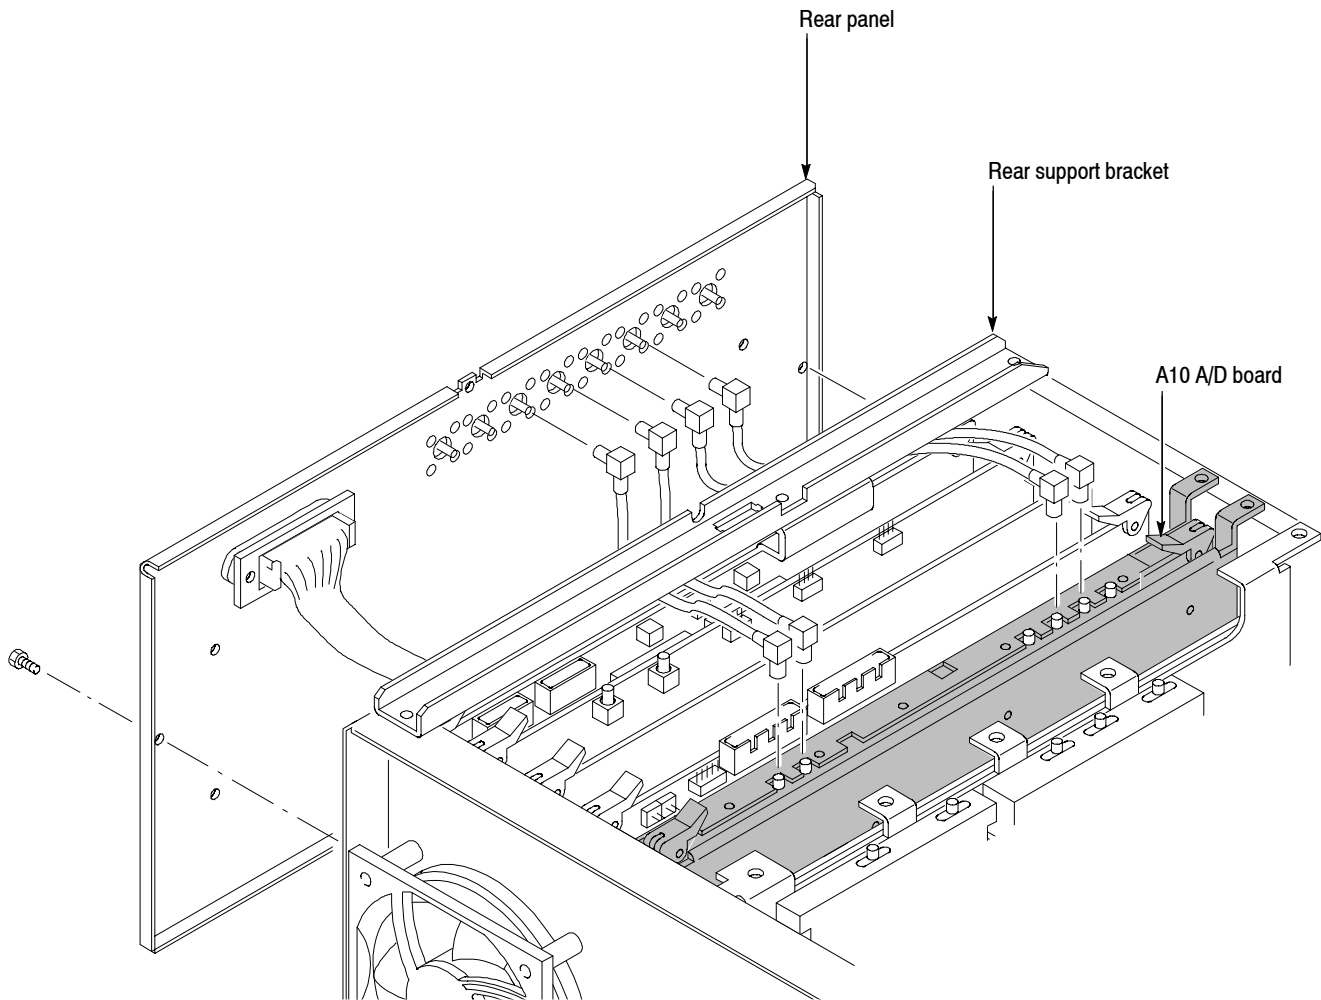

Figure 8: Connecting SMB cables
1. *Remove the rear panel:* See Figure 8 below.
NOTE. Pass the cables under the rear support bracket (see Figure 8 on page 10).